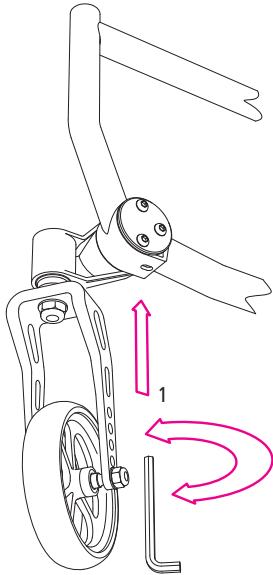
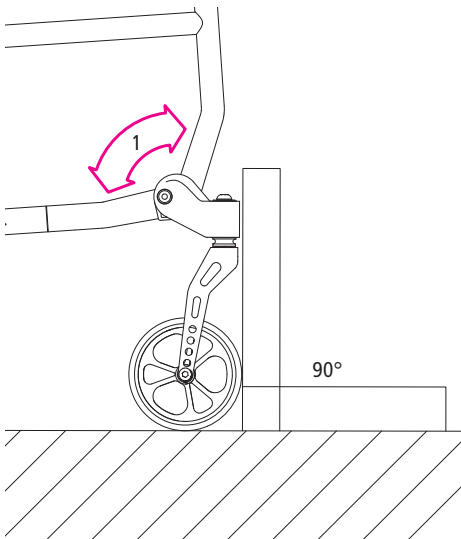

Fig. 59
Fig. 60
2. You can now insert a 5 mm Allen key through the hole in the bottom of the castor housing and adjust the angle by turning (1, Fig. 59) (1, Fig. 60).